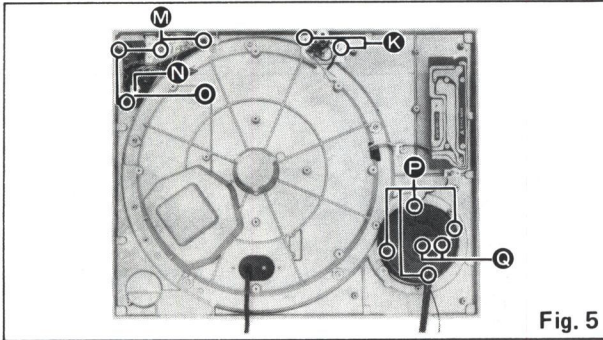

Fig. 5
11. Remove 2 screws **K** of the stylus-illuminator lamp ass'y as shown in Fig. 5.
13. Remove 4 screws **M** as shown in Fig. 5.
14. Remove 1 circlip **N** and switch cam **O** as shown in Fig. 5.
16. Remove 4 screws **P** of the arm base cover as shown in Fig. 5.
17. Remove 2 screws **Q** of the phono cord clammer as shown in Fig. 5.